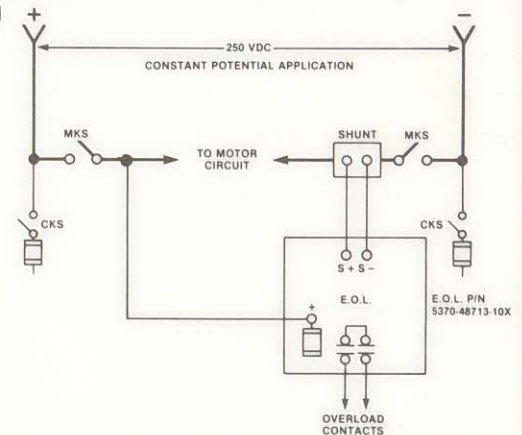
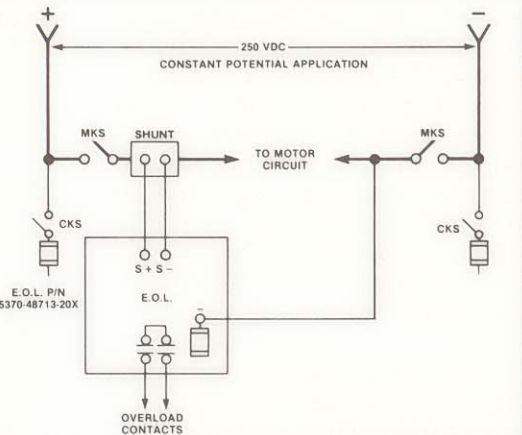

FIG. 1
FIG. 2
1. Verify that the proper polarity electronic overload relay has been selected. The 48713-101, 102, 103 relays are negative shunt types and require that the shunt be placed in the negative supply line. The positive connection is made to the "+" terminal on the electronic module. See Fig. 1. The 48713-201, 202, 203 relays are positive shunt types and require that the shunt be placed in the positive supply line. The negative connection is made to the "-" terminal on the electronic module. See Fig. 2.
2. Verify that 250v dc is present at the electronic overload relay. For negative shunt types, Fig. 1, measure 250v dc from the "+" positive terminal to the "S+" negative terminal. For positive shunt types, Fig. 2, measure 250v dc from the "-" negative terminal to the "S-", positive terminal.
2. Verify that the shunt wiring is in accordance with Fig. 1 for negative shunt overloads, or Fig. 2 for positive shunt overloads. Correct wiring if necessary.